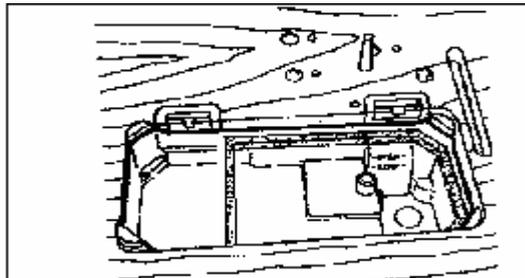
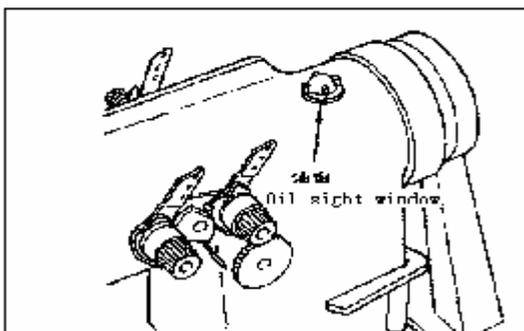

Fig.2
Fig.3
五、加油(图2. 图3)
1. 向油盘内加缝纫机油(10号白油)至HIGH记号部位(图2).
3. 加油后开动机器, 润滑正常时, 应看到油液喷到油窗上(图3). 至于喷到油窗上的油量多少与总油量的多少无关, 所以不必担心.
5、Oiling (Figs.2 and 3)
1. Oiling shall be made in oil reservoir and the oil surface also be made to level the mark "High" before the machine is started running (Fig.2)
2. Oiling shall be kept on until the oil surface has been brought above the mark "Low"(Fig.3)